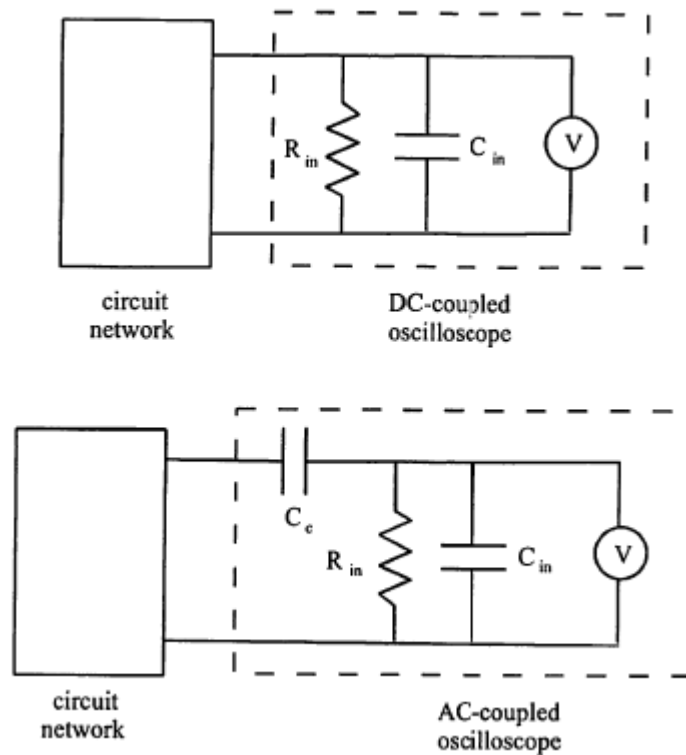
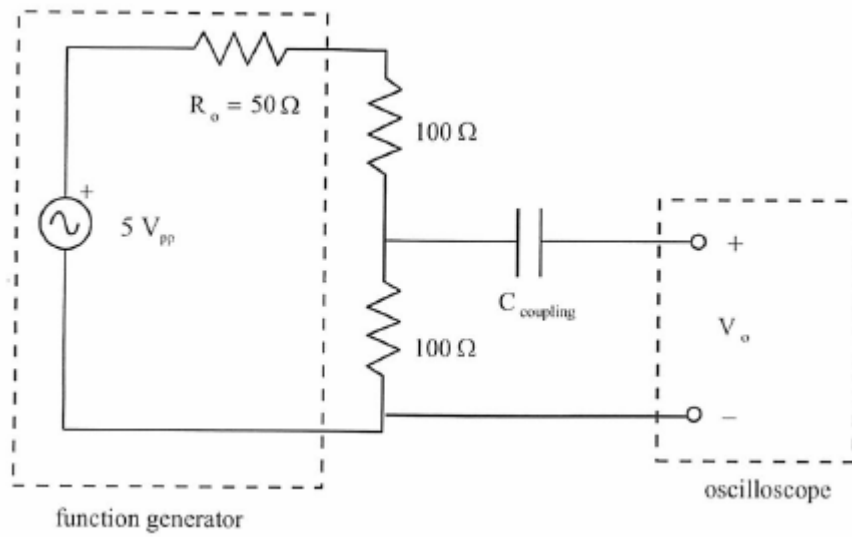

Figure 3.2 Oscilloscope Coupling
Figure 3.9 Coupling Capacitor Effects
Most oscilloscopes are provided with a switch to select between AC or DC coupling of a signal to the oscilloscope input amplifier. When AC coupling is selected, the DC component of the signal is blocked by a capacitor inside the oscilloscope that is connected between the input terminal and the amplifier stage. Both AC and DC coupling configurations are illustrated in Figure 3.2.  $R_{in}$  is the input resistance (impedance) and  $C_{in}$  is the input capacitance.  $C_c$  is the coupling capacitor that is present only when AC coupling is selected.
- Refer back to Figure 3.2 for details on the impedances within the oscilloscope. We can simulate an AC coupled oscilloscope by adding an external coupling capacitor to a DC coupled oscilloscope. To do this, build the circuit shown in Figure 3.9. Adjust the function generator to add a 1 Vdc offset to the  $5V_{pp}$  1kHz signal. Be sure to select DC coupling on the oscilloscope so to properly set the offset. Use a  $0.022 \mu\text{F}$  coupling capacitor ( $C_{\text{couple}}$ ) and describe below the resulting output. **If you don't notice an effect try briefly shorting the capacitor several times while watching the oscilloscope display.** Then try a  $0.1 \mu\text{F}$  and a  $1 \mu\text{F}$  capacitor (refer back to Section 1.4 in Lab 1 for info on how to read capacitor values). **Note carefully what happens to the oscilloscope display when you first attach the scope probe to measure  $V_o$  for each case.** Make sure you discharge the coupling capacitor by shorting its leads before you attach the probe to measure the voltage. How do the results change with the capacitance value?